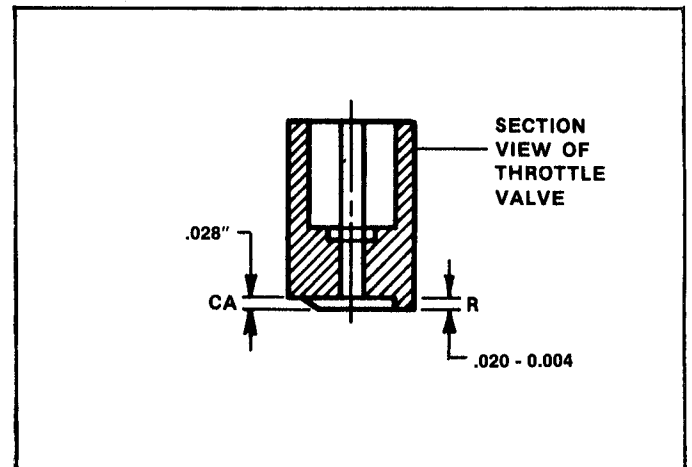

FIGURE 3.3
1. Cut-away (CA) and recessed (R) portion of each throttle valve are match-machined to stabilize the fuel flow during engine idling. See Figure 3.3.